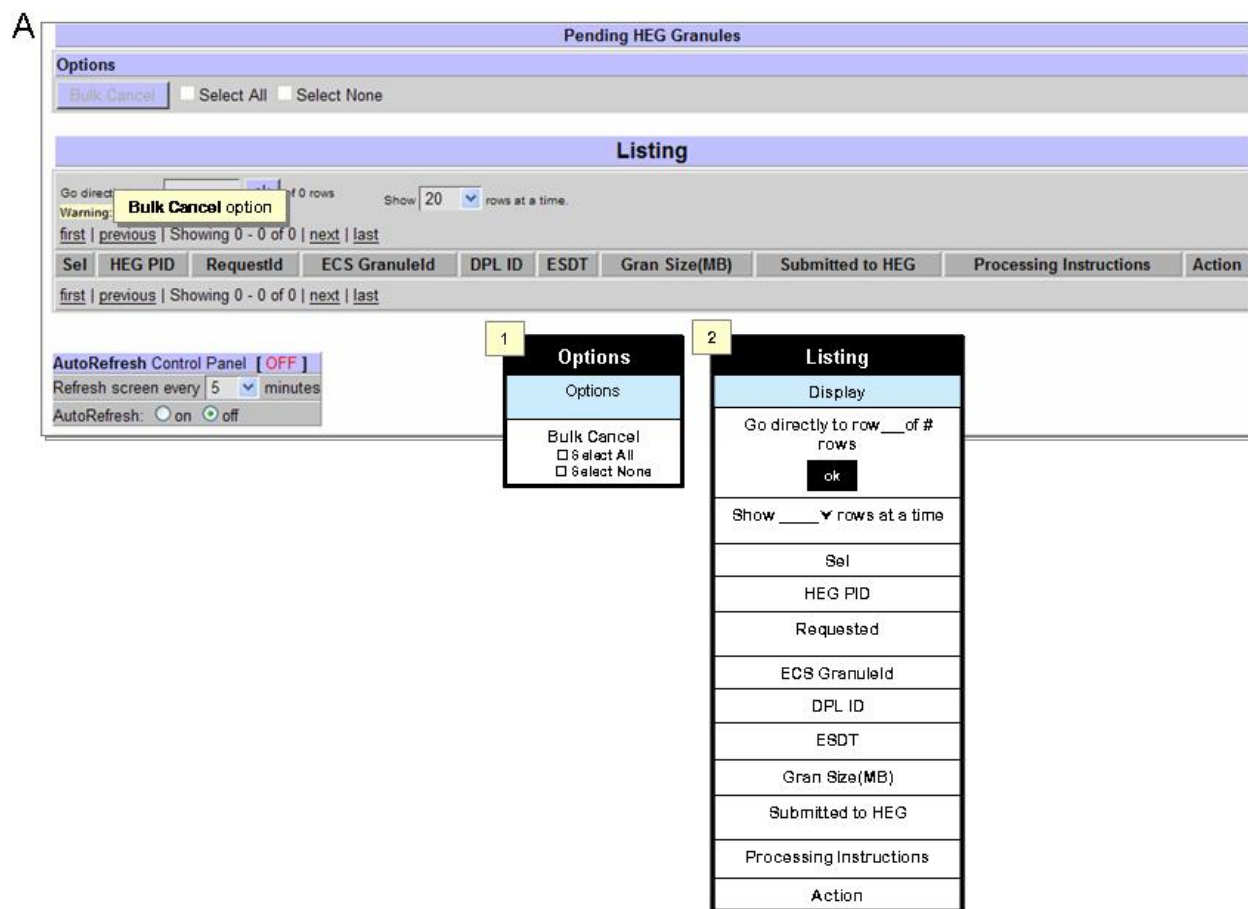

Figure 15.9-4. Pending HEG Granules Page (Frame A) and Tables (Frames 1-2)
The OM GUI displays pending HEG granules. The **Pending HEG Granules** (Figure 15.9-4, Frame A) page provides Operator (with either full or limited capability) with a means of viewing pending HEG granules.
- 2 Click **Pending HEG Granules** submenu option to display its page (Figure 15.9-4, Frame A).
- The **Options** section of the **Pending HEG Granules** page has the following button and selection boxes (Figure 15.9-4, Table 1):
- 4 Observe the information displayed in the **Listing** section (Figure 15.9-4, Table 2) of the **Pending HEG Granules** page: